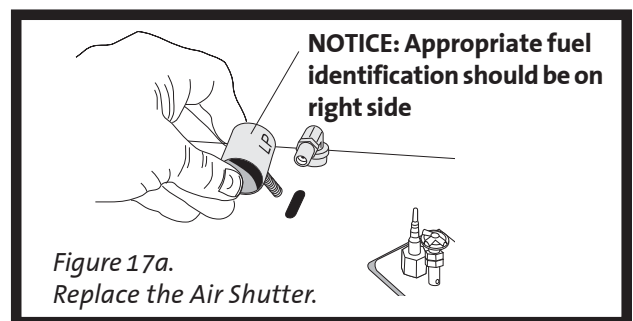

Figure 17a. Replace the Air Shutter.
10. Replace the Air Shutter over the burner orifice. **Note that NG/LP designations are stamped on the sides of the shutter. Orient the shutter so that the appropriate fuel designation is on the right, facing the pilot assembly.** See fig. 17a.